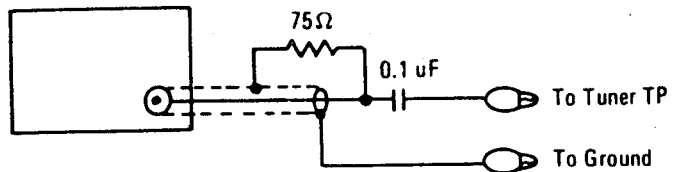

FIG.8
A. PREPARATION STEP (SEE FIG. 8)